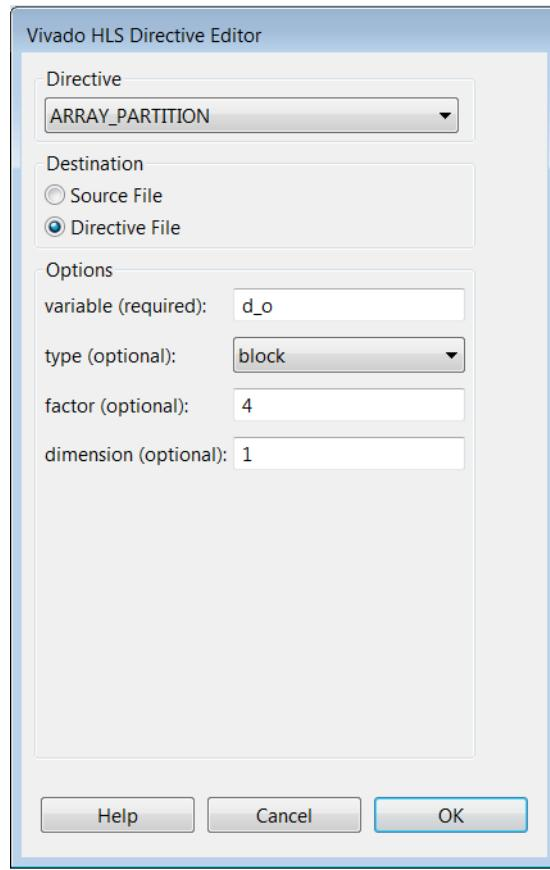

Figure 4-22: Directives Editor for Partitioning Array d_o
- d. With the Directives Editor as shown in Figure 4-22, click **OK**.